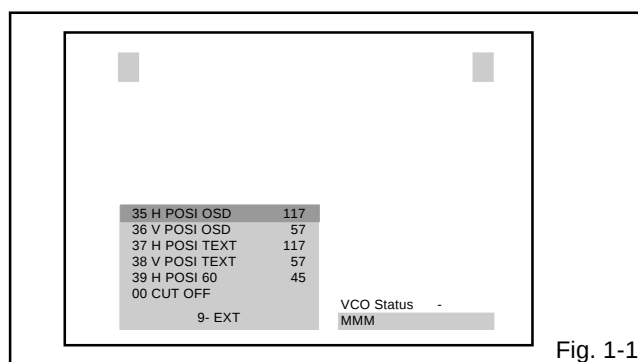

Fig. 1-1
1. In the condition of NO indication on the screen. Press the VOL. DOWN button on the set and the Channel button **(9)** on the remote control for more than 2 seconds to appear the adjustment mode on the screen as shown in **Fig. 1-1**.
3. Activate the adjustment mode display of **Fig. 1-1** and press the channel button **(13)** on the remote control to select "VCO COARSE".
4. Activate the adjustment mode display of **Fig. 1-1** and press the channel button **(01)** on the remote control to select "RF AGC".
4. Activate the adjustment mode display of **Fig. 1-1** and press the channel button **(00)** on the remote control to select "CUT OFF".
4. Activate the adjustment mode display of **Fig. 1-1** and press the channel button **(03)** on the remote control to select "R DRIVE".
3. Activate the adjustment mode display of **Fig. 1-1** and press the channel button **(08)** on the remote control to select "H POSI (50)".
8. Activate the adjustment mode display of **Fig. 1-1** and press the channel button **(39)** on the remote control to select "H POSI (60)".
3. Activate the adjustment mode display of **Fig. 1-1** and press the channel button **(11)** on the remote control to select "V SIZE (50)".
9. Activate the adjustment mode display of **Fig. 1-1** and press the channel button **(12)** on the remote control to select "V SIZE (60)".
4. Activate the adjustment mode display of **Fig. 1-1** and press the channel button **(17)** on the remote control to select "BRIGHT CENT".